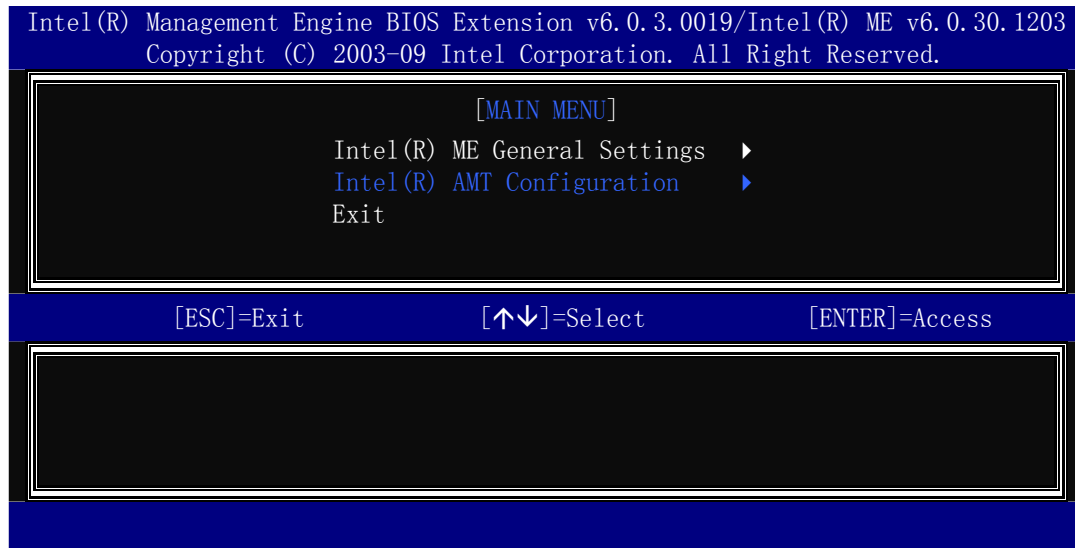

Figure A-4: Intel® AMT Configuration
Step 5: Select **Intel® AMT Configuration** and press **Enter** (Figure A-4).